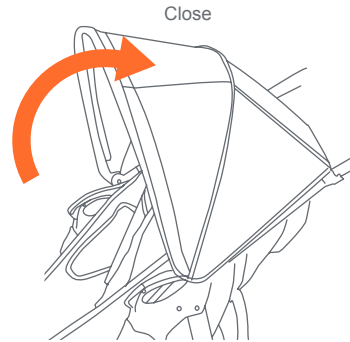

Fig. 9
- 9) • To fold the canopy: pull backwards on the front edge (Fig. 9).